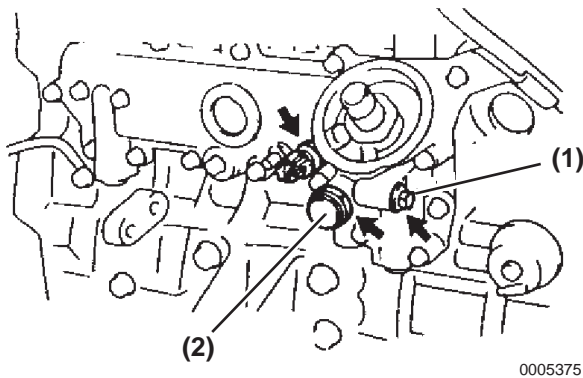

Figure 8-23
5. Remove the relief valve (**Figure 8-23, (2)**) and gasket.
6. Remove the check valve (**Figure 8-23, (1)**) and gasket.